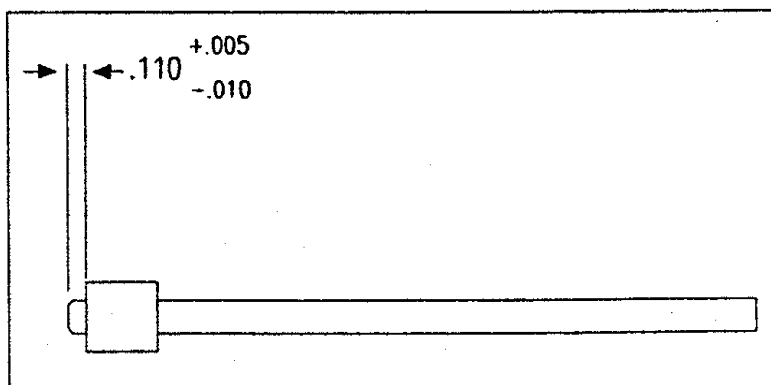

Figure 4-2, Correct Ferrule-To-Tip Distance
3. If the capillary is clogged, clean it by applying a vacuum or pressurized dry nitrogen through the bore. (Sometimes both techniques are required.) If necessary, gently tap the distal tip (ferrule end) on a hard surface covered with a paper towel to avoid scratching. Do not attempt to clear the bore with fine gauge wire, as this action will surely ruin the capillary. The ferrule-to-tip distance must be 0.110 inches (see Figure 4-2) or it is probable that the SMDE will malfunction.